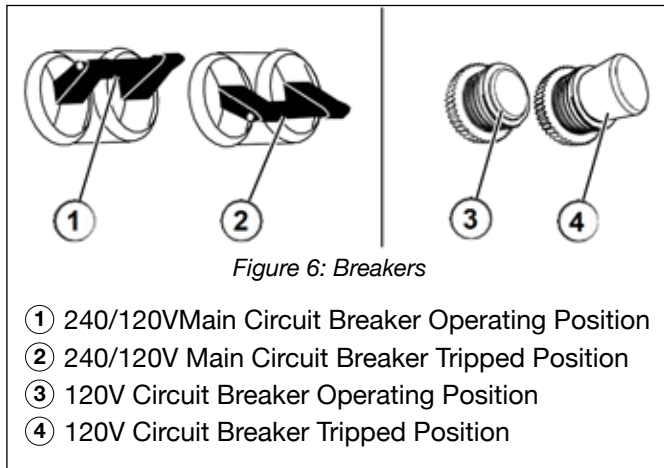

Figure 6: Breakers
4. Make sure the circuit breakers are properly set (see Figure 6).
3. Make sure the circuit breakers are properly set (see Figure 6).